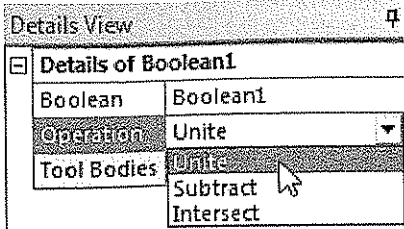

Figure 7-68 Selecting the **Unite** option from the **Operation** drop-down list
15. Select the **Unite** option from the **Operation** drop-down list of the **Details View** window, if it is not already selected, as shown in Figure 7-68.